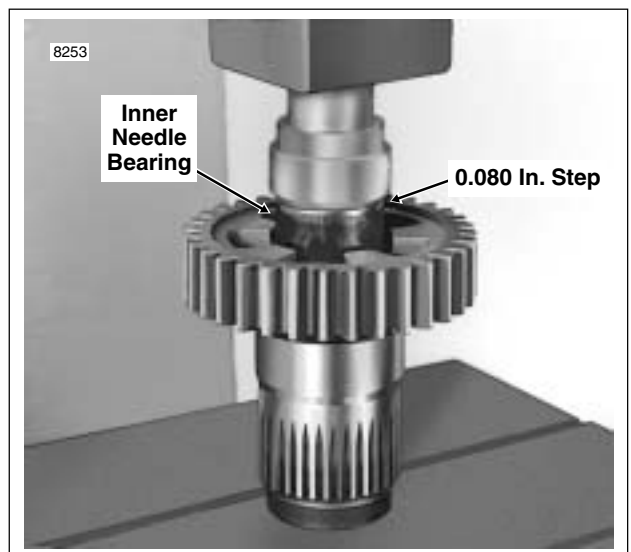

Figure 7-30. Press Transmission Side Needle Bearing into Main Drive Gear
4. See Figure 7-30. Turn over the main drive gear in the arbor press. Using the step a second time (0.080 inch step), press in inner (transmission side) needle bearing.